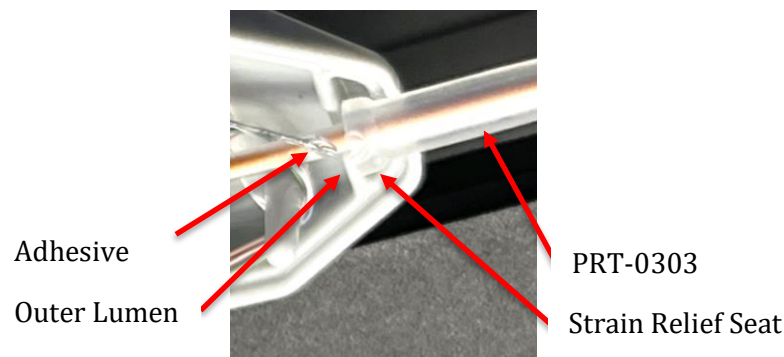

Figure 13: Adhesive application between outer lumen and strain relief
- 7.10.10 Align the strain relief to the designated seating within the bottom shell of the bridgeboard housing bottom shell. Apply Loctite 401 adhesive between the outer lumen and strain relief to close off a potential leak path as indicated in Figure 13. Create an adhesive fillet at the interface between the strain relief and the lumen tubing.